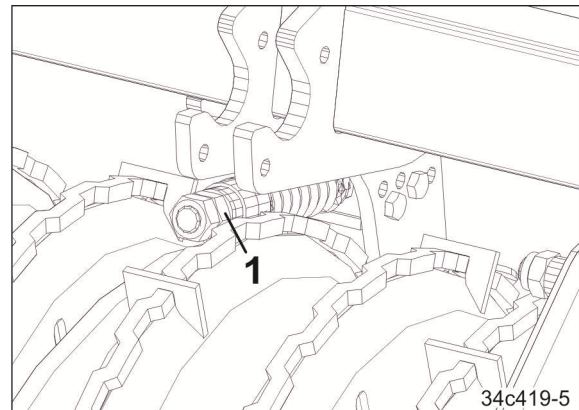

Fig. 131
2. Turn the hexagon nut (Fig. 131/1) on the spring package until the ends of the blades are flush again with the edges of the roller. Lock the hexagon nut.